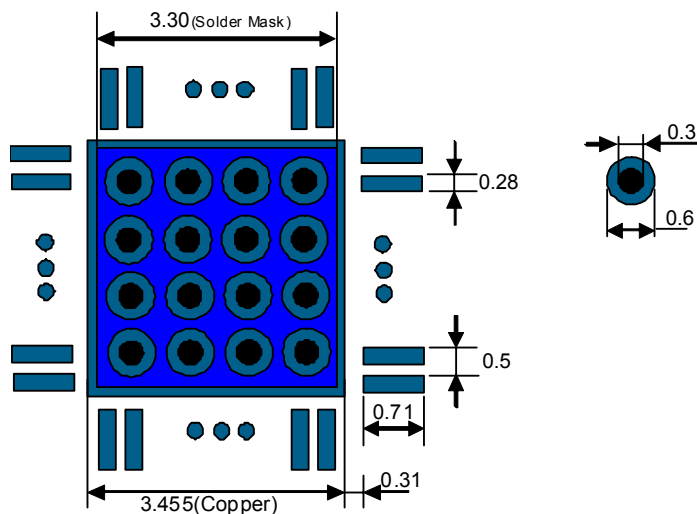

Figure 1. Recommended Via Placement
The exposed pad provides the main thermal dissipation path for the device. Thermal performance of the QFN package mainly relies on the size of the exposed pad and the number of vias placed on the exposed pad (See Figure 1)
7. Underneath the exposed pad, put as large signal ground plain as possible to dissipate the heat generated by the IC. On the Exposed Pad, put at least 16 vias (drill: 0.3mm, pad: 0.6mm) (See Figure 1)